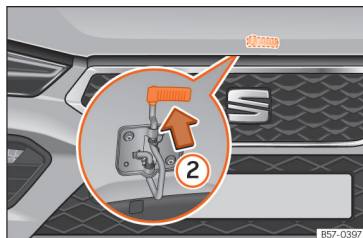

Fig. 208 Lever under the bonnet.
- To lift the bonnet, press the release catch under the bonnet upwards >>> **Fig. 208** ②. The arrester hook under the bonnet is released.